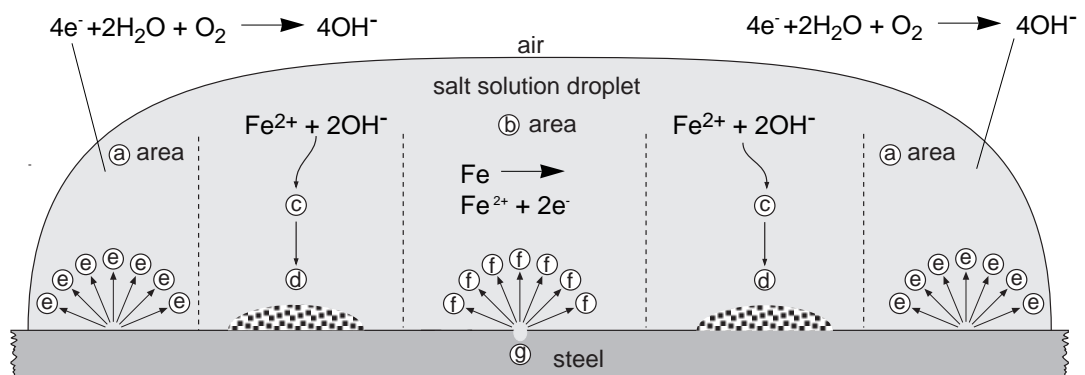

Figure 1. Salt solution droplet in contact with steel surface
- Study Figure 1 below and use it to help explain what is happening in the corrosion process. The figure is not complete, so you can complete it by identifying letters a to g. You may find the introduction to the pre-course background reading material helpful for this.